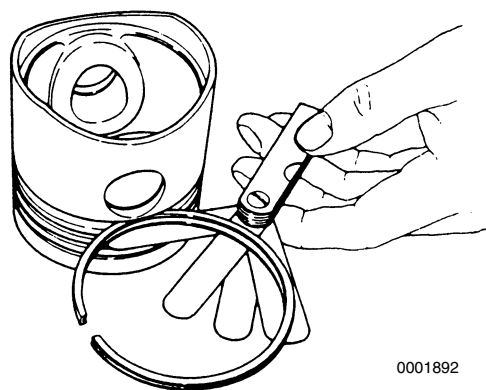

Figure 6-114
9. Place each compression piston ring in the groove as shown (**Figure 6-114**). Use a feeler gauge to measure the clearance between the piston ring and the piston ring land. Record the measurements. See *Piston Ring on page 6-17* for specifications. Replace the piston if not within specification.